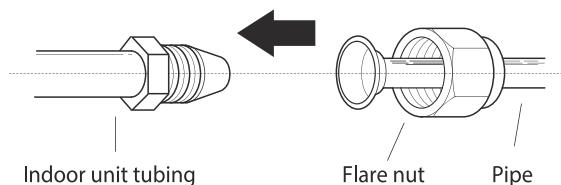

Fig. 5.7
- 1 Align the center of the two pipes that you will connect. See Fig. 5.7.